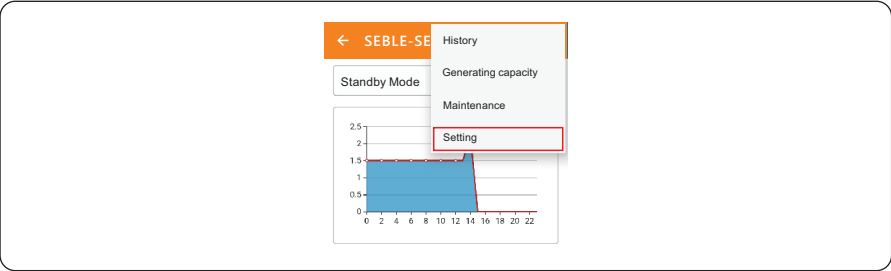

Figure 5.20 APP homepage setting
**Step 2** Click the Extension key, and select Setting in the prompt manual, as shown in Figure 5.20.